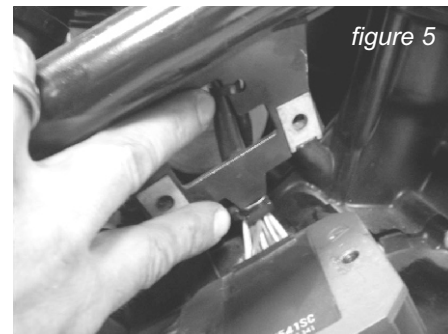

figure 5
- Remove the two torx screws securing the regulator (right side) and cut the wire-ties that retain the wires to it so you'll be able to route the adjuster line behind it (figure 5).